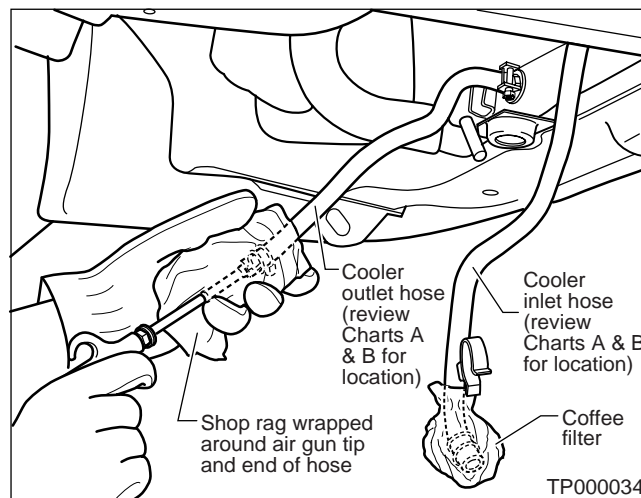

Figure 9
6. Insert the tip of an air gun into the end of the Cooler Outlet hose (see Figure 9).
7. Wrap a shop rag around the air gun tip and end of the Cooler Outlet hose (see Figure 9).
8. Blow compressed air regulated to 5-9 kg/cm² (70 – 130 PSI) through the Cooler Outlet hose to force any remaining ATF into the coffee filter (see Figure 9).